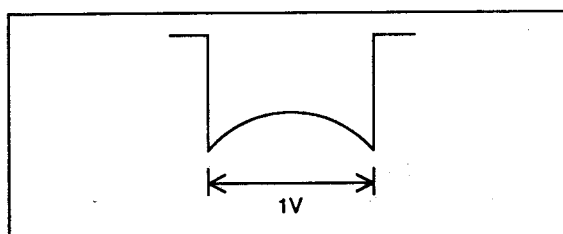

Fig. 47
3. Adjust R3512 (V. Luminance shading correction) to achieve waveform as shown in Fig. 47.